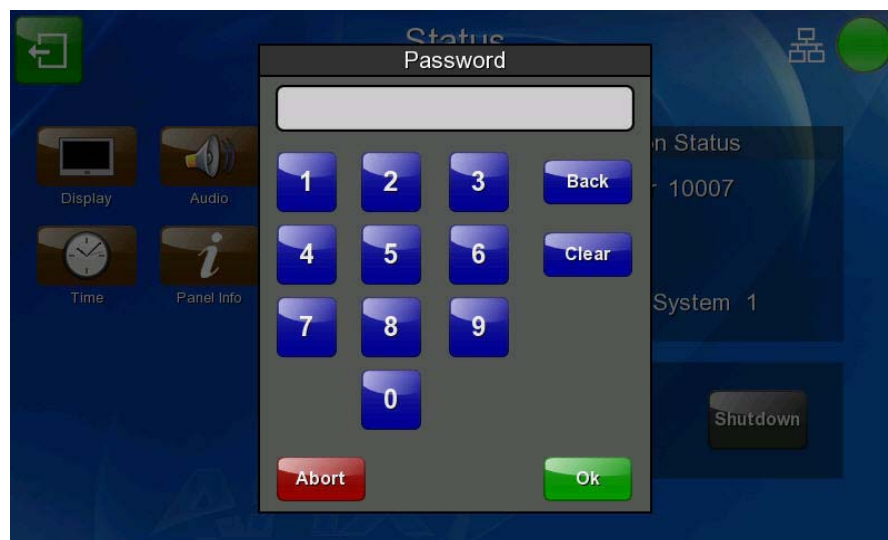

FIG. 59 Protected Settings page password keypad
6. From the *Setup* page, select the **Protected** button on the left side of the screen. This opens the password keypad (FIG. 59).